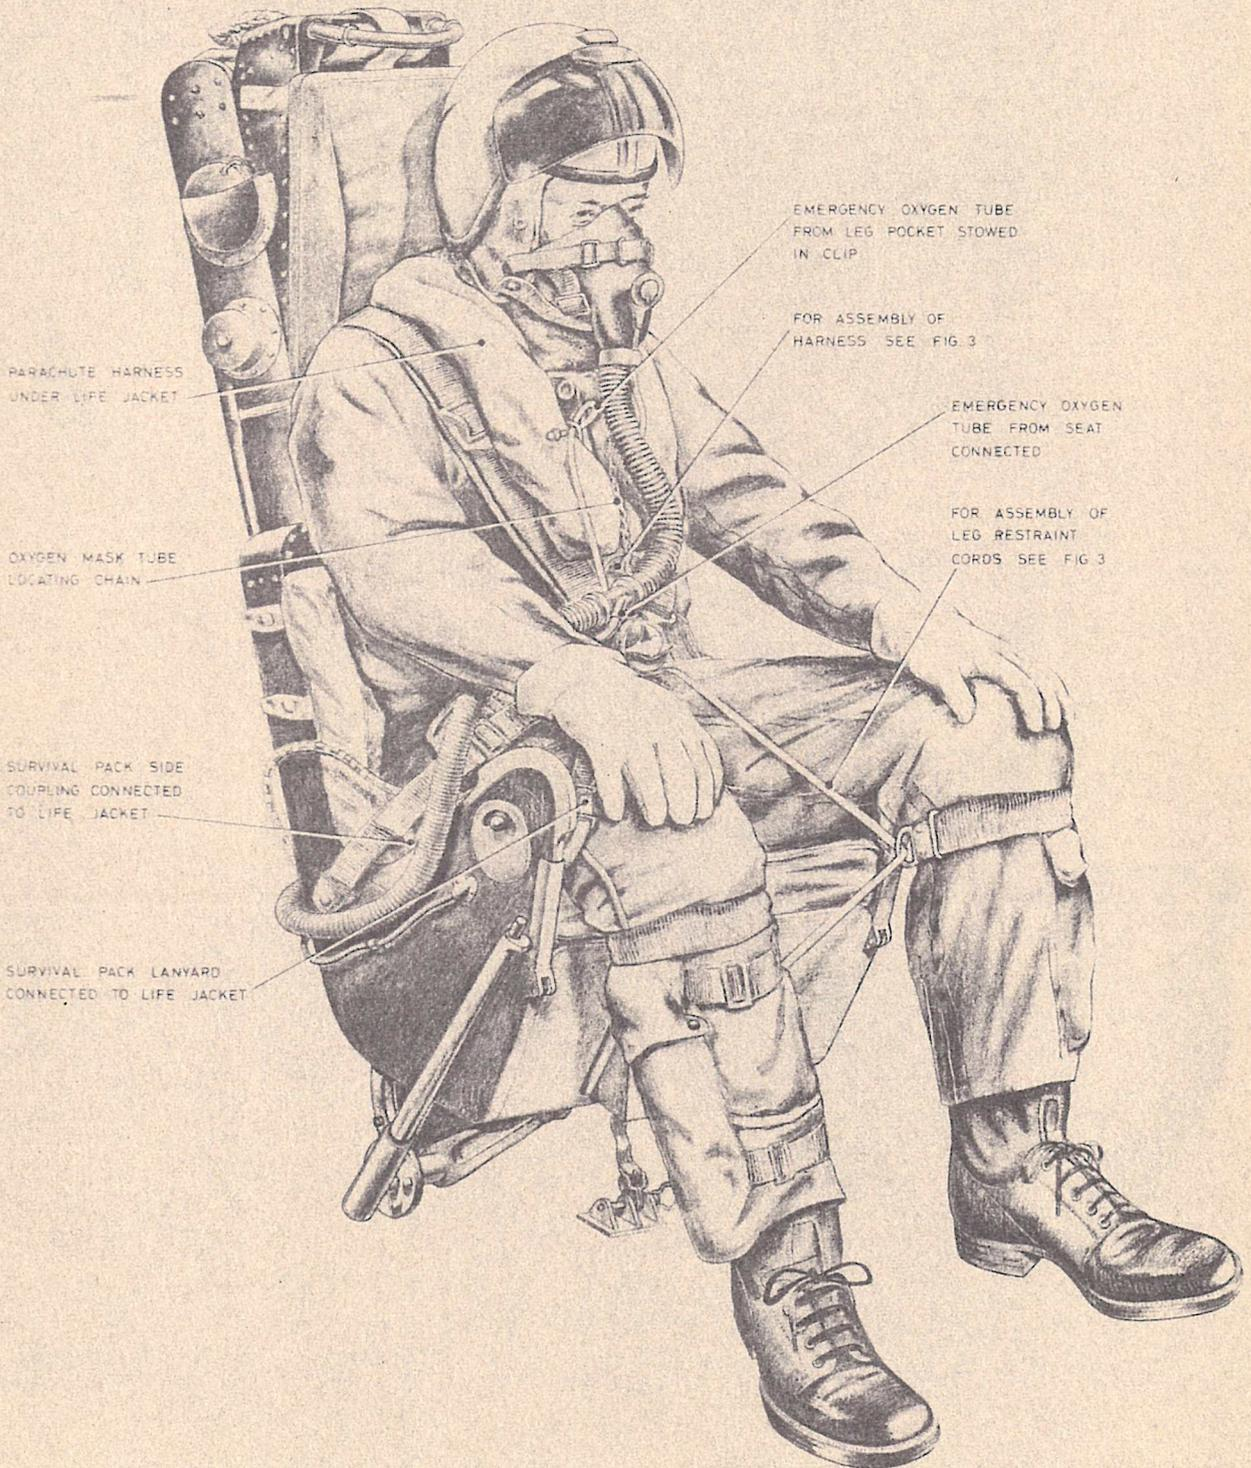

Fig. 6. The ejection seat occupied (Pupil)
- (16) Connect the main and emergency oxygen supply to the oxygen mask tube and the locating chain to the life jacket. Any excess of emergency oxygen tube must be coiled up and tucked between the seat thigh guard and the side of the personal survival pack (loose loops of cable or hose constitute a hazard on ejection). The pupil's additional emergency oxygen tube from the leg pocket is stowed in the clip provided (fig. 6).
- (17) Connect the Mic/tel lead.
- (18) Check that the cap on the static line disconnect and override control is in place. If the cap has been removed, try to replace it; if it cannot be refitted, the parachute assembly will not operate automatically and another assembly is to be obtained.
- (19) Adjust the height of the seat. Ideally, the head should be located in the centre of the headrest cushion.
- (20) Stretch the arms upwards to check that the firing handle is within easy reach with both hands together.
- (21) Ensure the chin straps of both helmets are fastened, fit the oxygen mask and perform pre-flight oxygen checks.